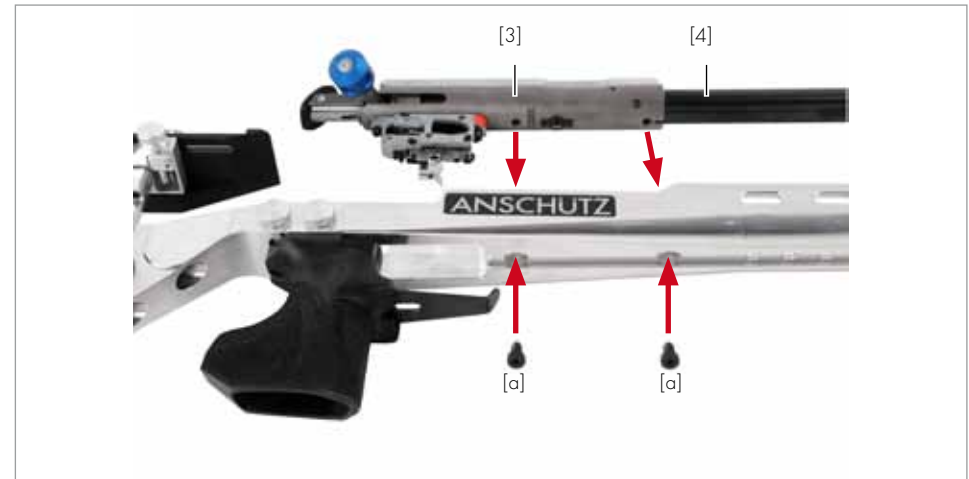

Fig.2 Attaching the barrelled action
- ▶ Lay the barrelled action [4] in the milled-out channel in the stock [11] (see Fig. 2).